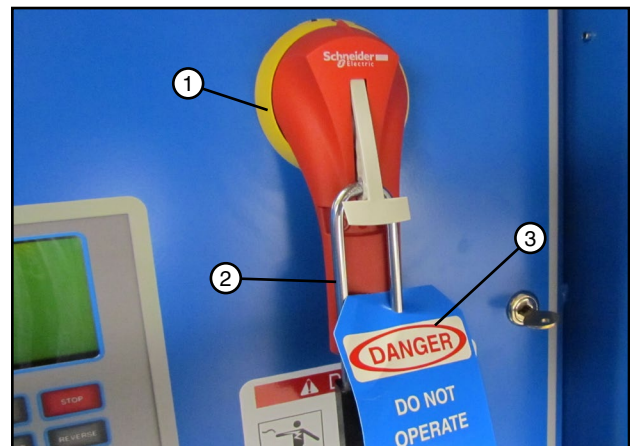

Figure 93-2 1. Main Disconnect
- b) SHUT OFF and LOCK the control panel main power disconnect. FILL OUT the blue (OSHA safety color code) tag and attach to the disconnect after locking. See figure 93-2.